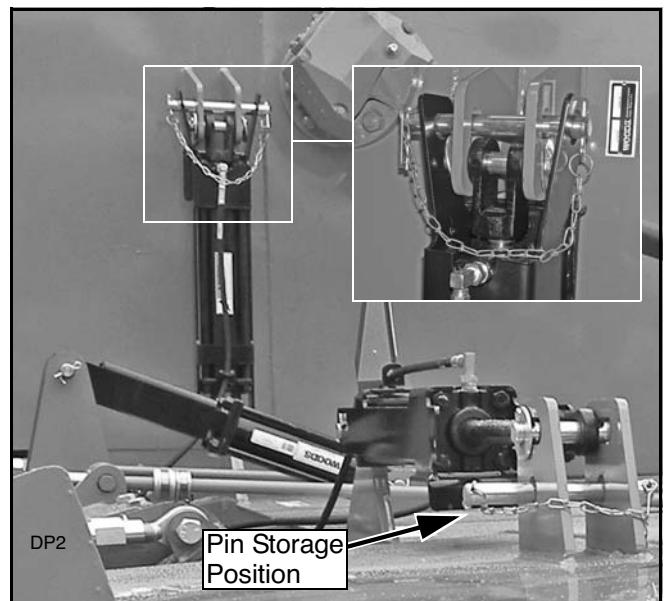

Figure 2. Transport Lock-Up
2. Rotate transport lock into position over cylinder rod (Figure 2).